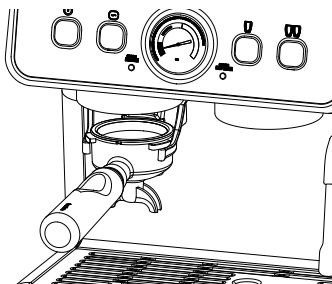

Fig. 6
3. As shown in Fig. 6, put the Portafilter (12) with a Single-Cup Filter (13) or Double-Cup Filter (14) into the Grind Outlet (5).